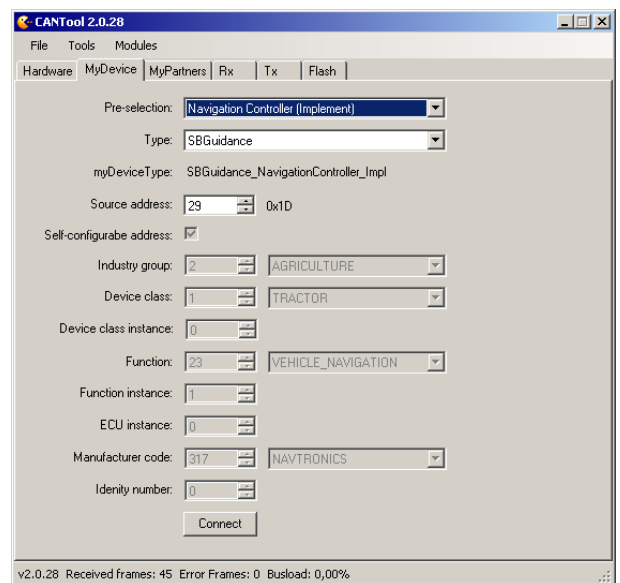

Figure 28 Navigation Controller (Implement)
**(Implement)**". Then click *Connect* (Figure 28).